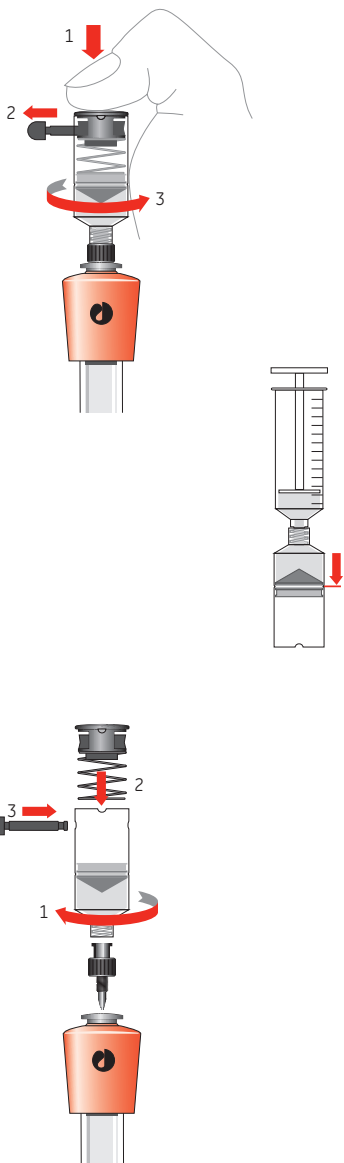

Fig. 1 Recommended procedure for use of storage/shipping device with Tricorn/HiPrep columns.
- 1 Connect a syringe or pump to the storage/shipping device and fill with 20% ethanol to a level over the mark on the tube (Fig 1). Remove the syringe or pump connection.